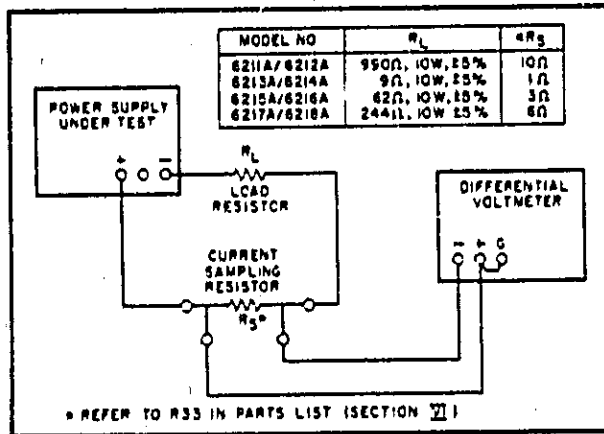

Figure 5-10. Constant Current, Test Setup
a. Connect test setup shown in Figure 5-10.
- a. Connect test setup shown in Figure 5-10.
- a. Utilize test setup shown in Figure 5-10.